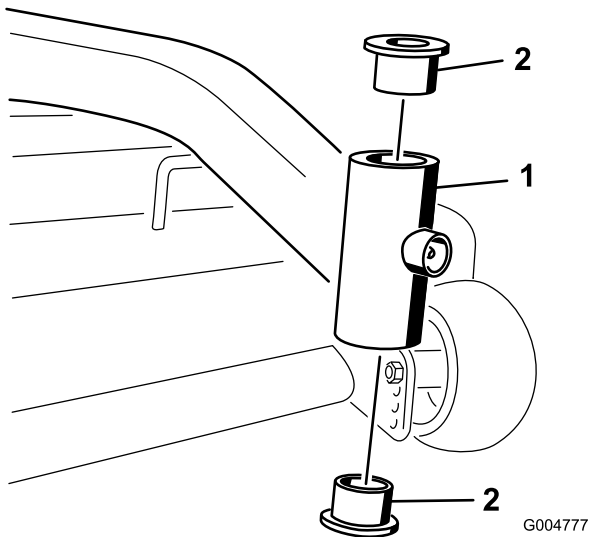

Figure 33
5. Insert a pin punch into the mounting tube and carefully drive out the bushings (Figure 33).
9. Inspect the caster wheel fork for wear and replace if necessary (Figure 33).
11. Replace the spacer(s) onto the fork and secure with the retaining ring (Figure 33).